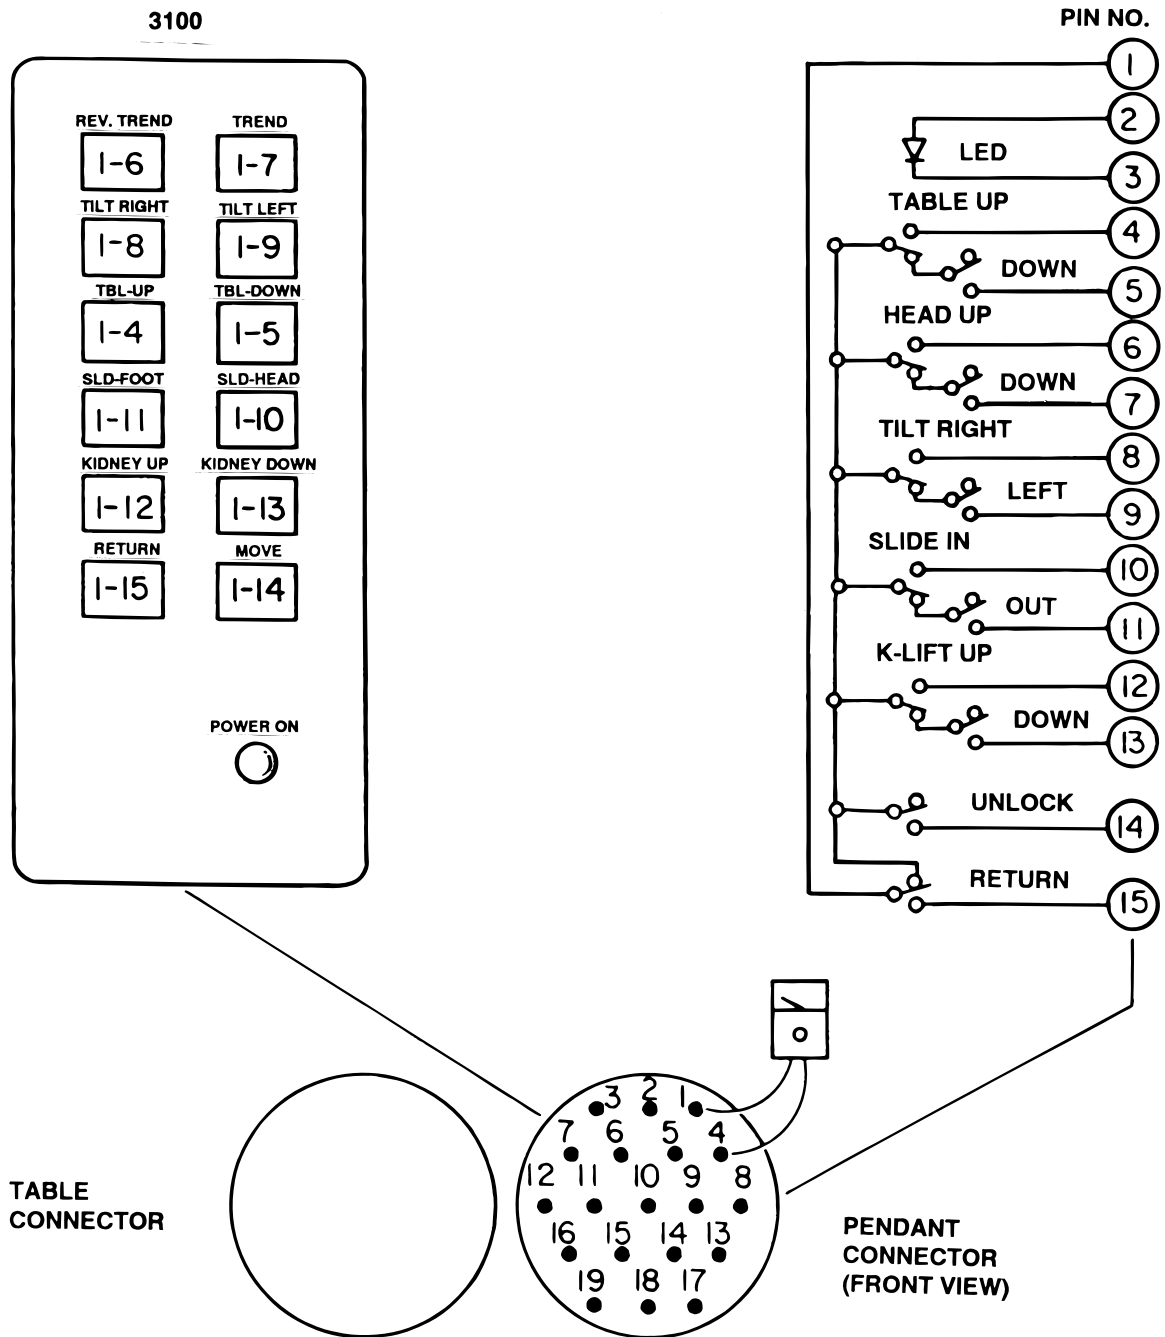

Figure 5-9. Pendant Control Test
- 2. Use an ohmmeter R x 1 and check the continuity between pins 1 through 16. See figure 5-9.